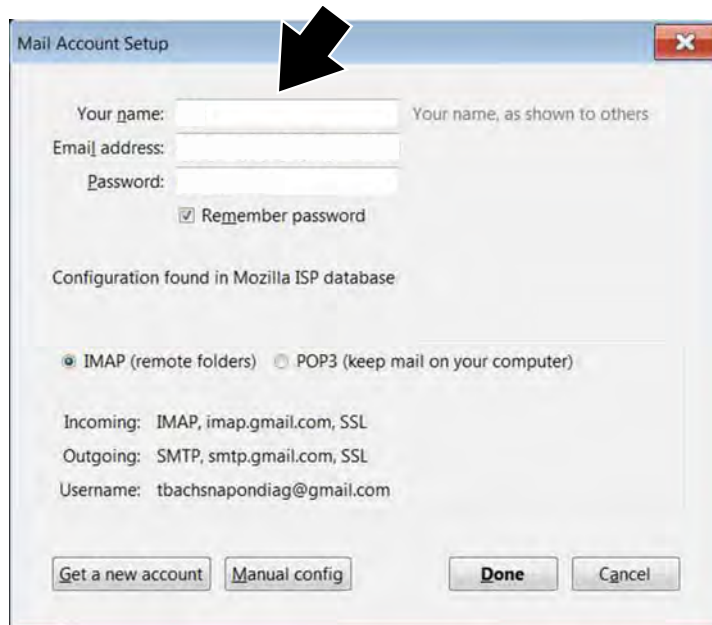

Figure 11-13
5. Enter your e-mail information as required (Figure 11-13).